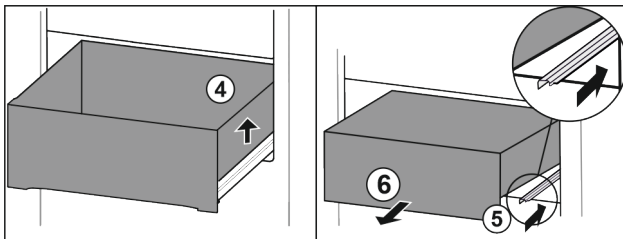

Fig. 114
- ▶ Lift drawer on the right. Fig. 114 (4)
- ▶ Insert right rail. Fig. 114 (5)
- ▶ Remove drawer to the front. Fig. 114 (6)